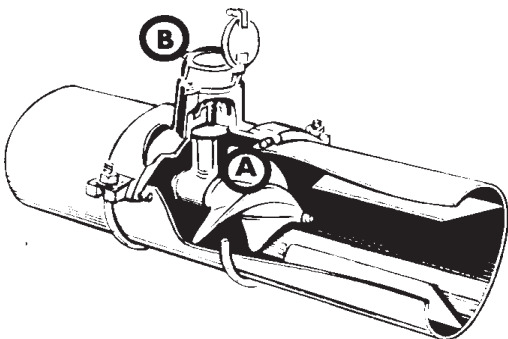

Fig. 1. Propeller-type meter for use in pipes.
Flow meters are excellent devices for measuring flow in an irrigation pipe. A typical flow meter is shown in the cutaway view, fig. 1. The main parts consist of a propeller (A) mounted in a short section of pipe and geared to a revolution counter (B) which records the rate of flow and the cumulative total. The counter is similar to an automobile speedometer, which shows both the rate of speed of the car as well as the miles traveled.